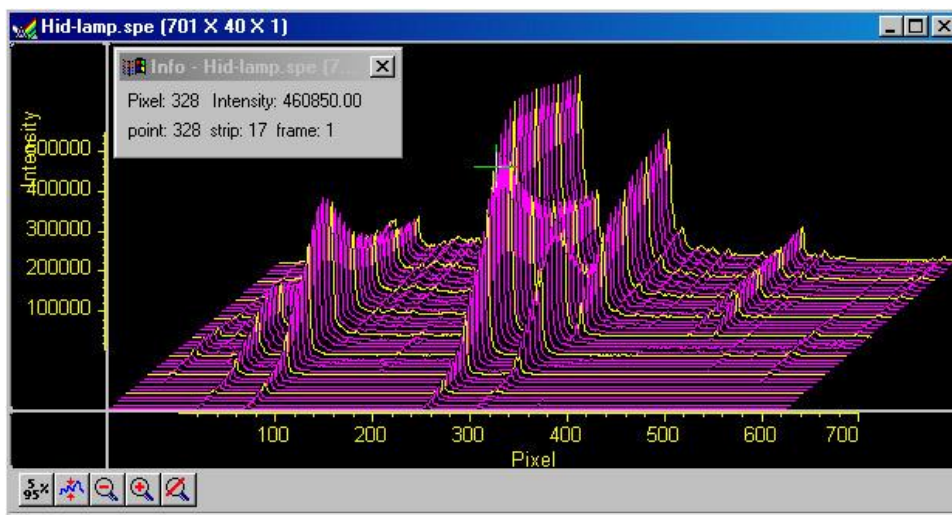

Figure 83. 3D Display with Cursor curve and Marker Curves
1. On the 3D Layout tab page, select **Highlight Cursor Curve** and **Marker Curves On**. Then press **OK**. The cursor curve and marker curves should be clearly delineated. Note that on a color monitor they would be in contrasting colors and much easier to see than in a black and white print as shown in Figure 83.